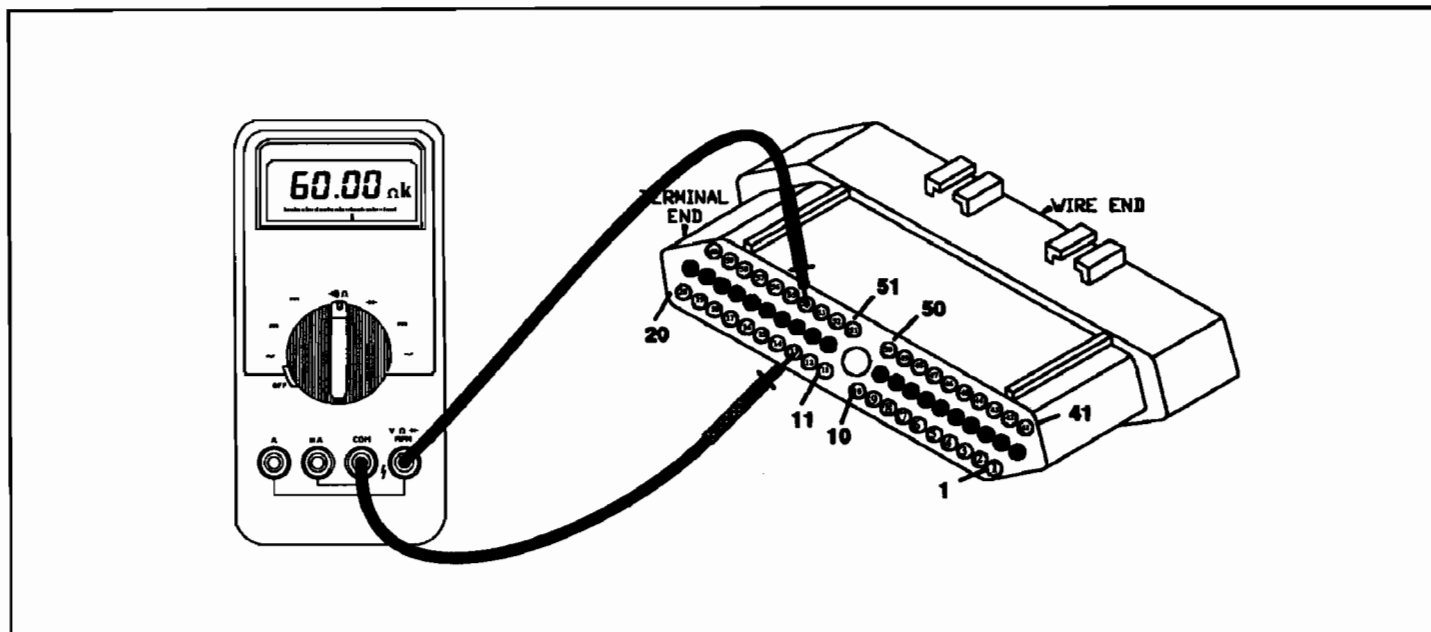

Figure 4
5. If continuity is seen, re-connect the TRS sensor and perform a resistance check on the TFT sensor from the TCM connector. Place one meter lead into terminal 13 and the other meter lead into terminal 54 (See Figure 4). The range for the sensor from cold to hot is 100,000 ohms to 150 ohms (See Table in Figure 5). If the change in resistance is proportional to the change in the transmission fluid temperature and the resistance remains within specification, change the TCM. If the resistance is out of specification or does not change in resistance proportional to temperature, change the TRS.